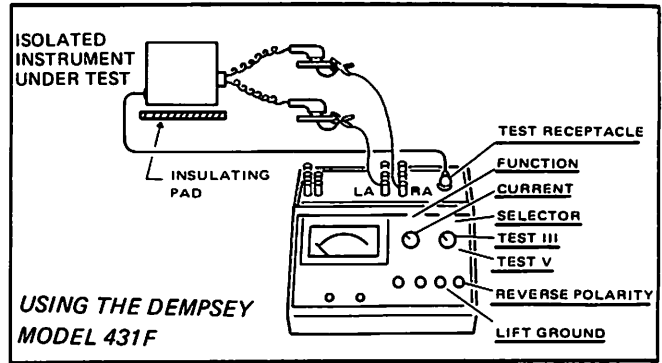

Figure 3-5A. Paddle Leakage Current (Sink Current) with 115 Volts Applied.
1. Connect the test equipment as shown in Figure 3-5A or B. If the Dempsey 431F is used, also follow the instructions included in that portion of the figure. Use clip leads to connect the right paddle to the RA output of the Dempsey and the left paddle to the LA output.